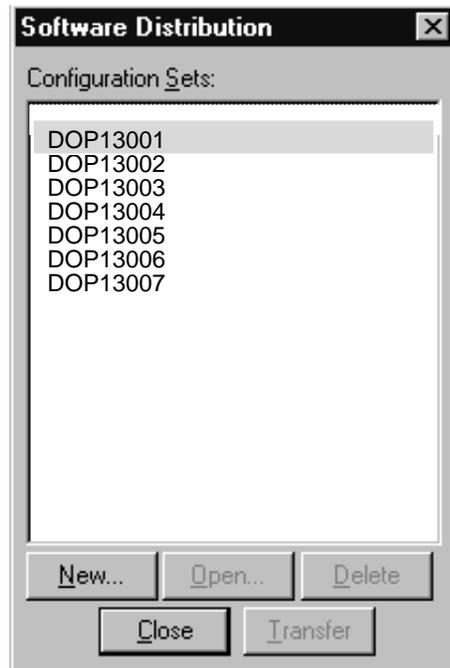

FIGURE 59. Software Distribution window
12. Back in the Software Distribution window, shown in Figure 59, select one of the configuration sets you have saved. Select only one set at the time, starting from the beginning.
It is critical that you transfer each patch separately, and in numerical order (for example, DOP13001 first, DOP13002 second, and so forth), as shown in Figure 59.